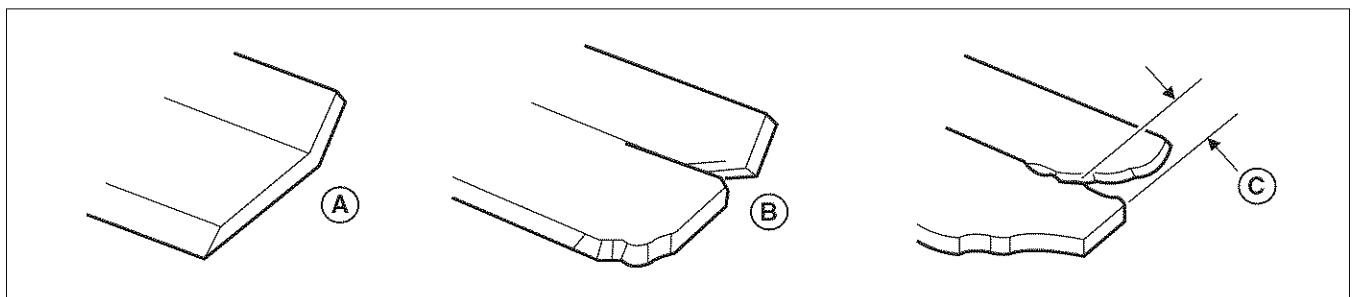

Figure 25. inspecting the Mower Blade Air Lifts
- B.) The air lifts are excessively eroded (B & C, Figure 25) and the notch (C) is .25" (6,35 mm) deep or greater.